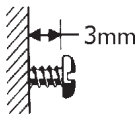

Figure 2
- Fix the 32mm screw provided into the wall leaving the head of the screw 3mm (1/8") out from the wall. (Figure 2.)